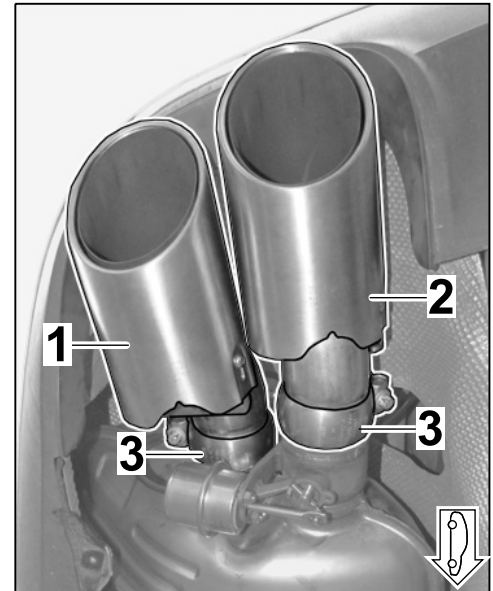

Figure 33
4.5.1 Pre-fit ball clamp (⇒ *Figure 33-3-*) on inner/outer tailpipe as shown in Figure 21 (left side: ⇒ *Figure 33*, right side: mirror image).